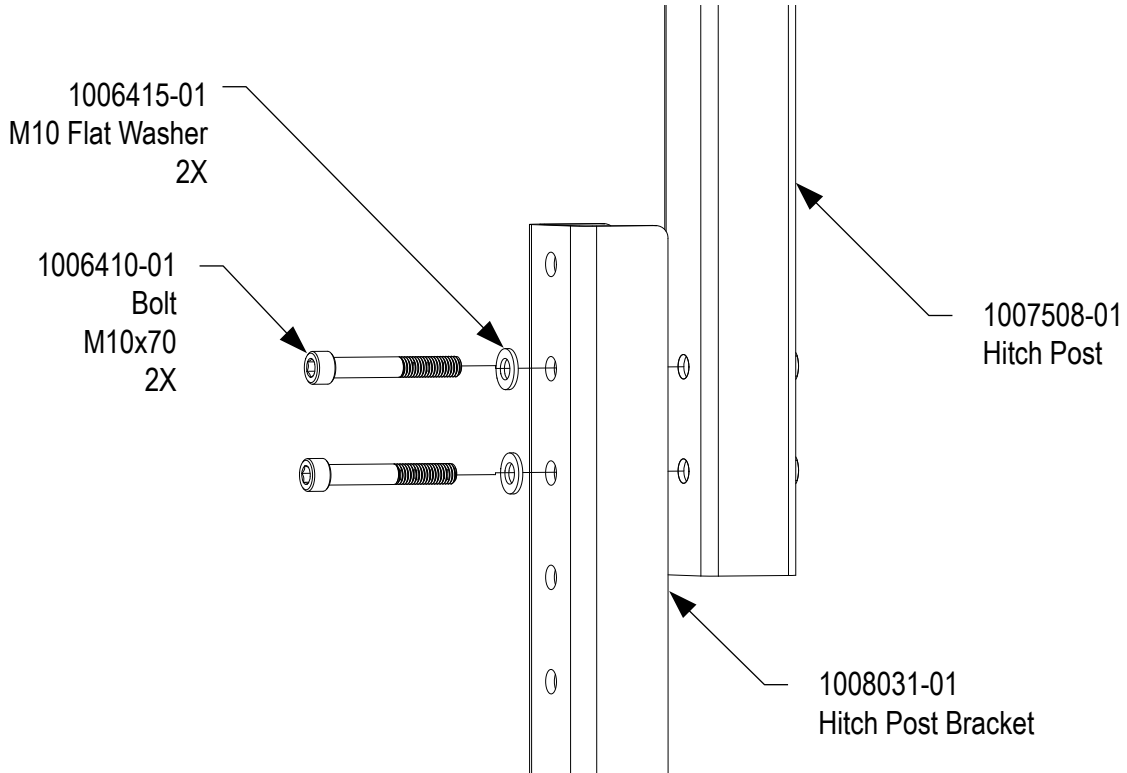

Figure 4: Hitch Post Bracket to Hitch Post
- Use the M10 bolts (1006410-01 2 ea) and M10 washers (1006415-01 2 ea) to install the hitch post (1007508-01 1 ea) onto the hitch post bracket (1008031-01 1 ea). See Figure 4.